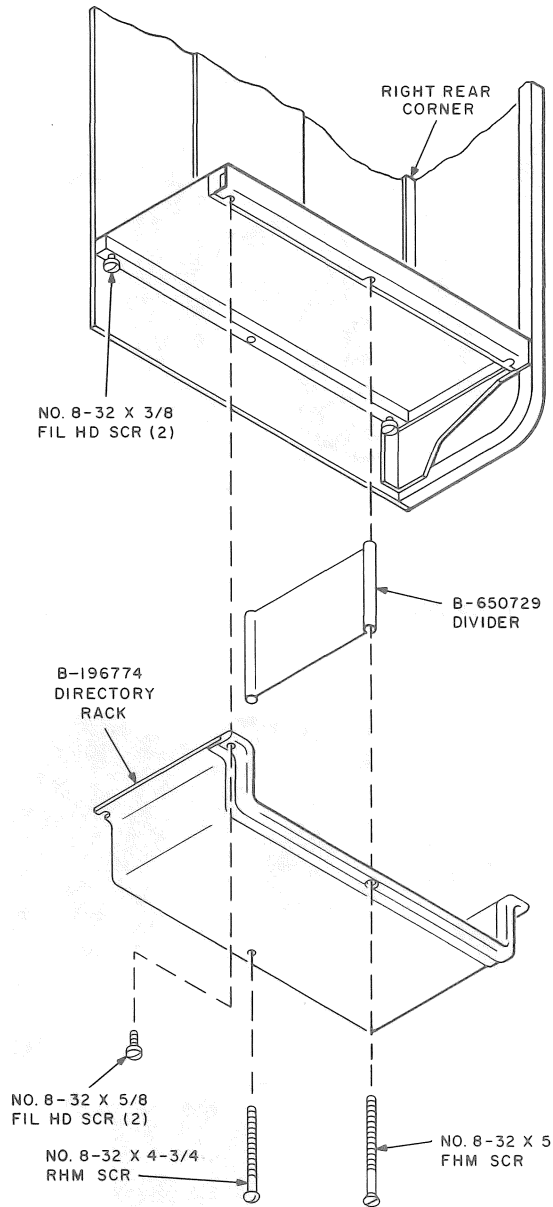

Fig. 13—Assembly of KS-19267, List 11 Directory Rack
3.09 Remove the KS-19267, List 11 directory rack per Fig. 13 or the KS-19267, List 13 cover assembly per Fig. 14.